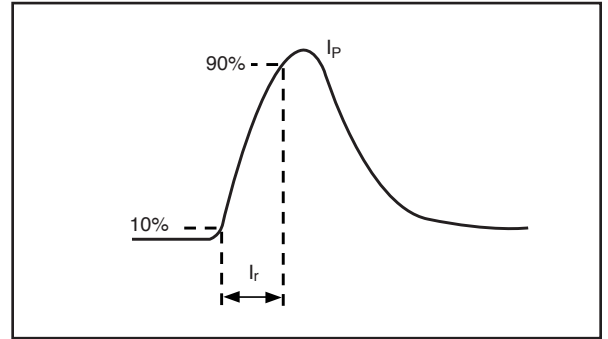

FIG. 4 - Layout for  $R_{th}$  test
(1) Device on fiberglass substrate, see layout in Fig. 4